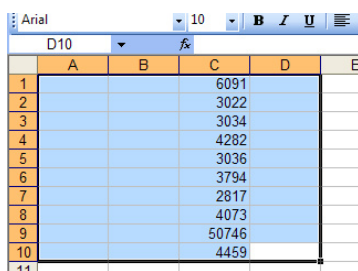

Figure 5 - Select all 4 columns
2. Select all four columns (Figure 5).